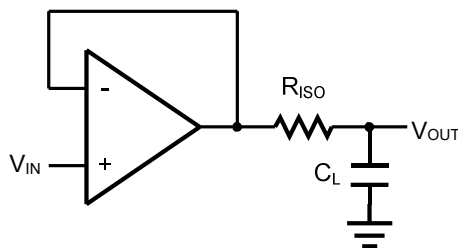
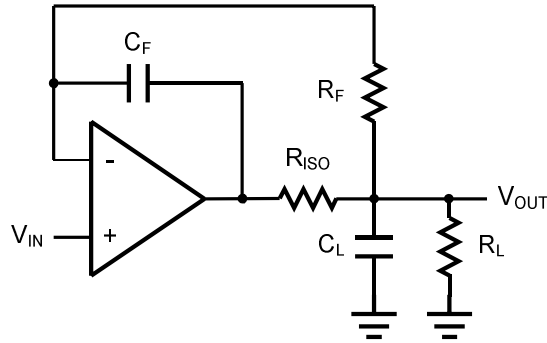

Figure 2. Indirectly Driving a Capacitive Load Using Isolation Resistor
Figure 3. Indirectly Driving a Capacitive Load with DC Accuracy
The HGx376 family is optimized for bandwidth and speed, not for driving capacitive loads. Output capacitance will create a pole in the amplifier's feedback path, leading to excessive peaking and potential oscillation. If dealing with load capacitance is a requirement of the application, the two strategies to consider are (1) using a small resistor in series with the amplifier's output and the load capacitance and (2) reducing the bandwidth of the amplifier's feedback loop by increasing the overall noise gain. Figure 2. shows a unity gain follower using the series resistor strategy. The resistor isolates the output from the capacitance and, more importantly, creates a zero in the feedback path that compensates for the pole created by the output capacitance.
The circuit in Figure 3 is an improvement to the one in Figure 2. R_F provides the DC accuracy by feed-forward the V_{IN} to R_L . C_F and R_{ISO} serve to counteract the loss of phase margin by feeding the high frequency component of the output signal back to the amplifier's inverting input, thereby preserving the phase margin in the overall feedback loop. Capacitive drive can be increased by increasing the value of C_F . This in turn will slow down the pulse response.